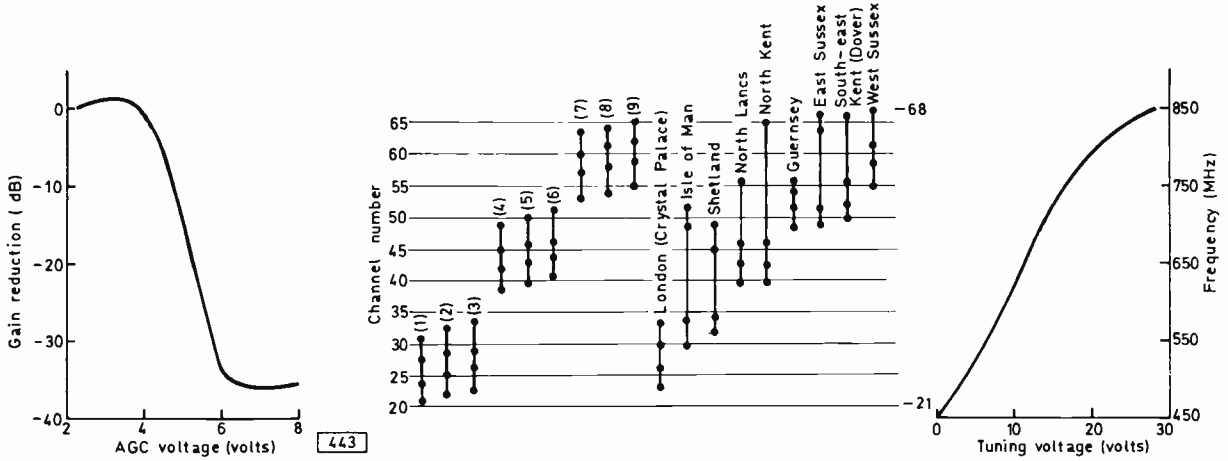

Fig. 5 (left): Plot of a.g.c. voltage against gain reduction. Peak gain occurs at about 3V but this varies slightly with different tuners.
A.G.C. Voltage. A swing of 2.5V to 6V increases the r.f. amplifier current from 6.5mA to 12mA causing a gain reduction of at least 35dB—see Fig. 5. Less than 500μA a.g.c. current is drawn. When adding the tuner to a receiver it is easiest not to bother with tuner a.g.c. and to fit instead a preset potentiometer to provide this voltage range. The potentiometer can be regarded as a sensitivity control which need only be backed off from its maximum gain extreme (2.5V) when used in strong-signal areas where cross-modulation occurs, i.e. simultaneous sound-on-vision and vision-on-sound, and patterning. In fact the tuner can give acceptable performance with an aerial signal as high as 8mV. For fringe area reception this sensitivity control is useful for locating the peak point on the a.g.c. curve (Fig. 5); this point varies slightly with frequency and different tuners. The a.g.c. voltage should be decoupled by say 20μF.